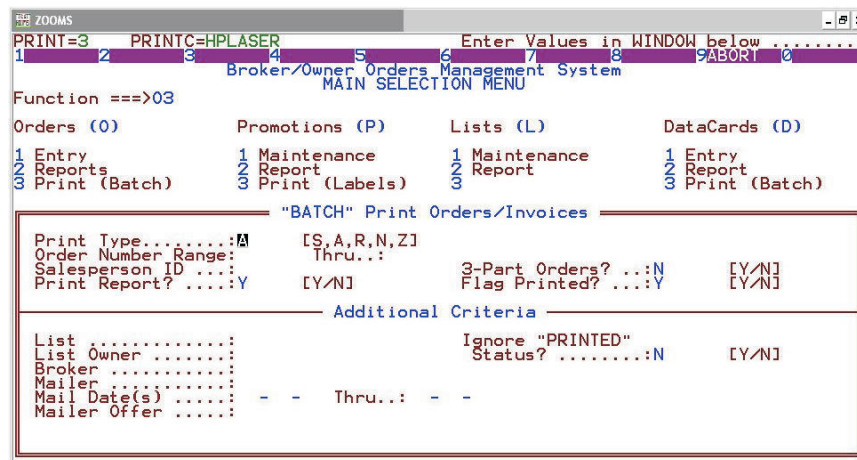

Figure 4.8. “Batch” Print Window.
- The overlaying of the lower part of the screen by the Batch Print Window (Figure 4-8)